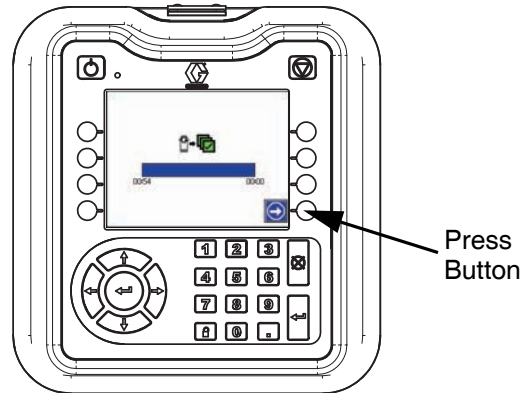

FIG. 48: Advanced Display Module
7. Turn the main power switch (MP) on the electrical control panel door to the ON position. The ADM software will be upgraded automatically.
8. Press the button on the ADM shown in FIG. 48 and pull the token out. The ADM will restart automatically.